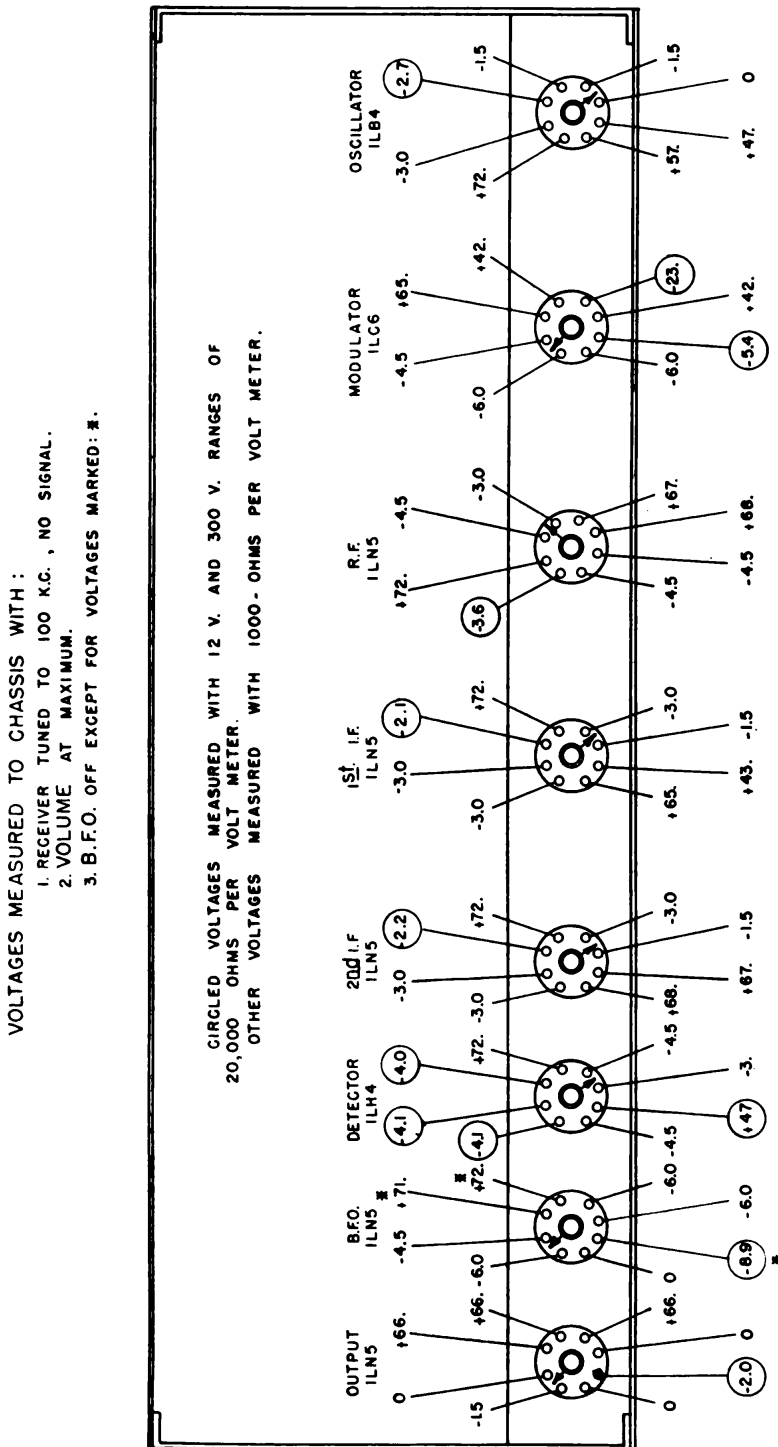

Figure 27. Radio Receiver BC-792-A, Diagram of Tube Sockets With Operating Voltages
*b.* The voltages that should be measured on a normal receiver are shown in figure 27. Because of the tolerance allowed on the values of various circuit elements, deviations of  $\pm 10\%$  from the normal are permissible.
*c.* To make the voltage measurements, connect one side of the voltmeter to any convenient part of the chassis, and then use a test prod connected to the other side of the voltmeter to contact the terminals of each of the sockets in turn. Be careful not to short-circuit any adjacent terminals on the tube sockets with the test prod. It's usually most convenient to measure all the positive voltages with respect to chassis, and then, by connecting the positive side of the voltmeter to the chassis, measure all the negative voltages. In general the voltages are measured with a 1000-ohm per volt meter. The exceptions are indicated in figure 27 by the circles around certain voltages measured in very high resistance circuits. In these instances the voltmeter used had a resistance of 20,000 ohms per volt, in order not to reduce excessively the voltage at the points measured. If you have only a 1000-ohm per volt meter available, the voltages you observe will be considerably lower at these points.